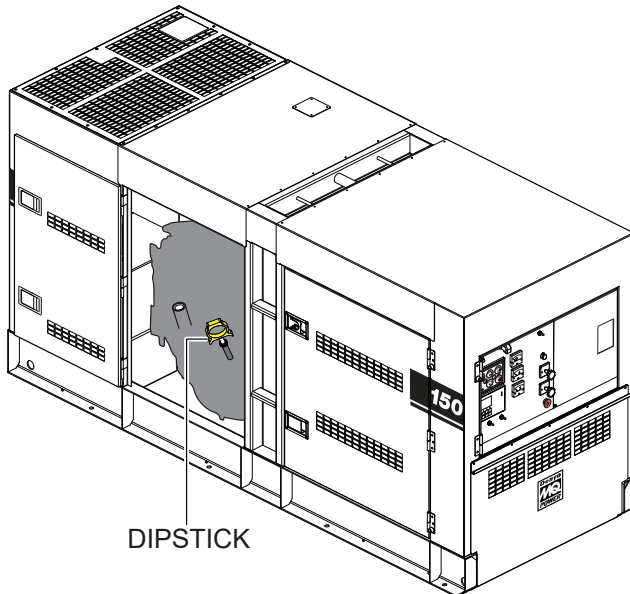

Figure 33. Engine Oil Dipstick Location
2. Remove the dipstick from its holder (Figure 33) and wipe it clean.